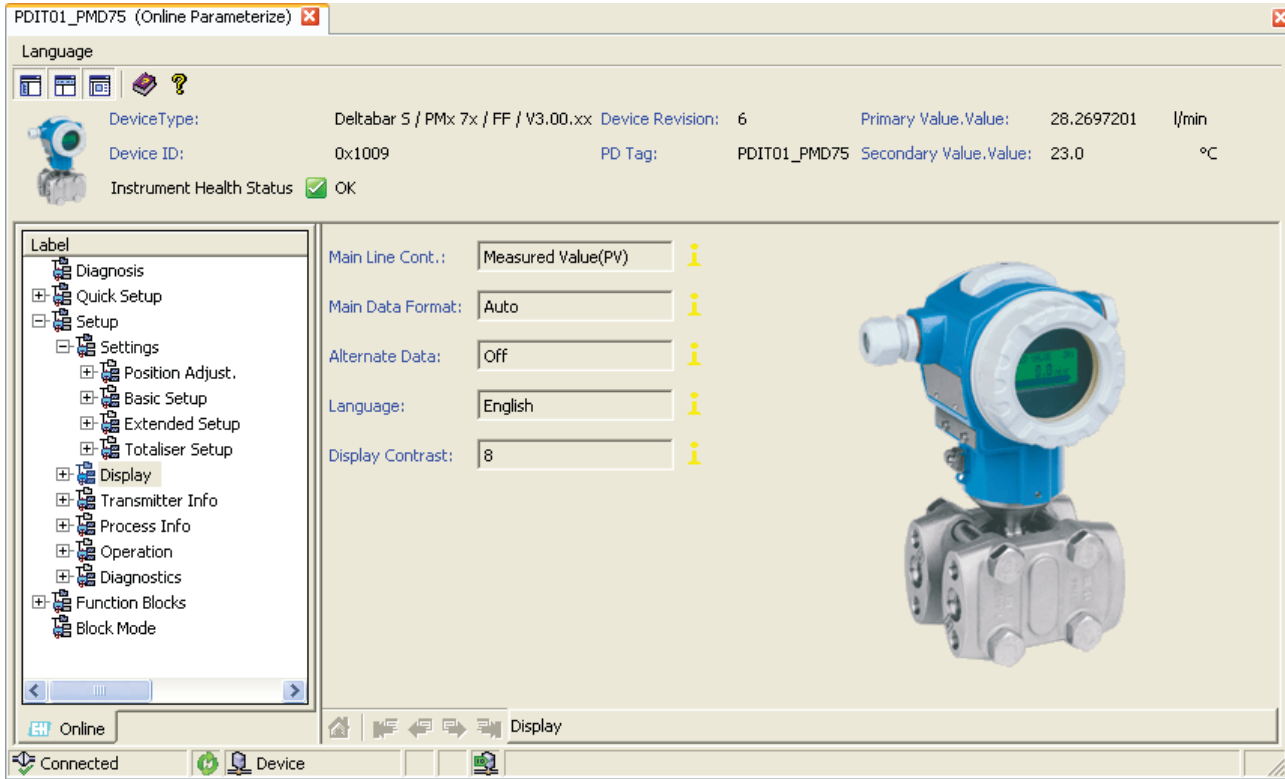

Figure 2-23. DISPLAY screen.
36. Open the *Setup ► Display* screen (Figure 2-23). Make sure *Main Line Cont.* is set to *Measured Value (PV)*. If not, set the *DISP* block to *OOS* mode, change *Main Line Cont.* to *Measured Value (PV)* and put the *DISP* block back to *Auto* mode.